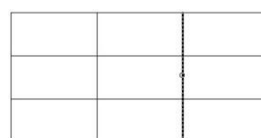

Fig 22
2. Specify the line of the table for dragging (Fig22).